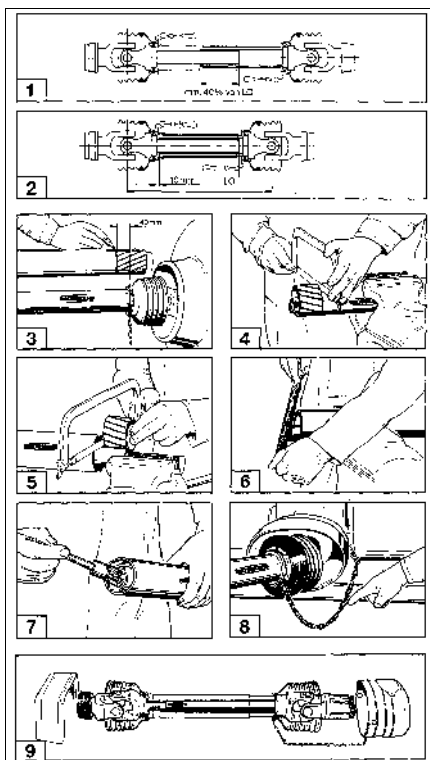

Fig. 28
**When first mounting match PTO shaft to the tractor according to Fig. 28/6. As this matching only applies for this specific type of tractor check PTO shaft matching when changing the tractor type or repeat it if necessary.**